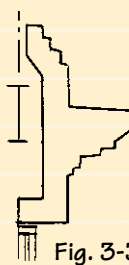

Fig. 3-3A
- Made to look traditional (as in Figs. 3-3A, 3-3B and 3-3C).